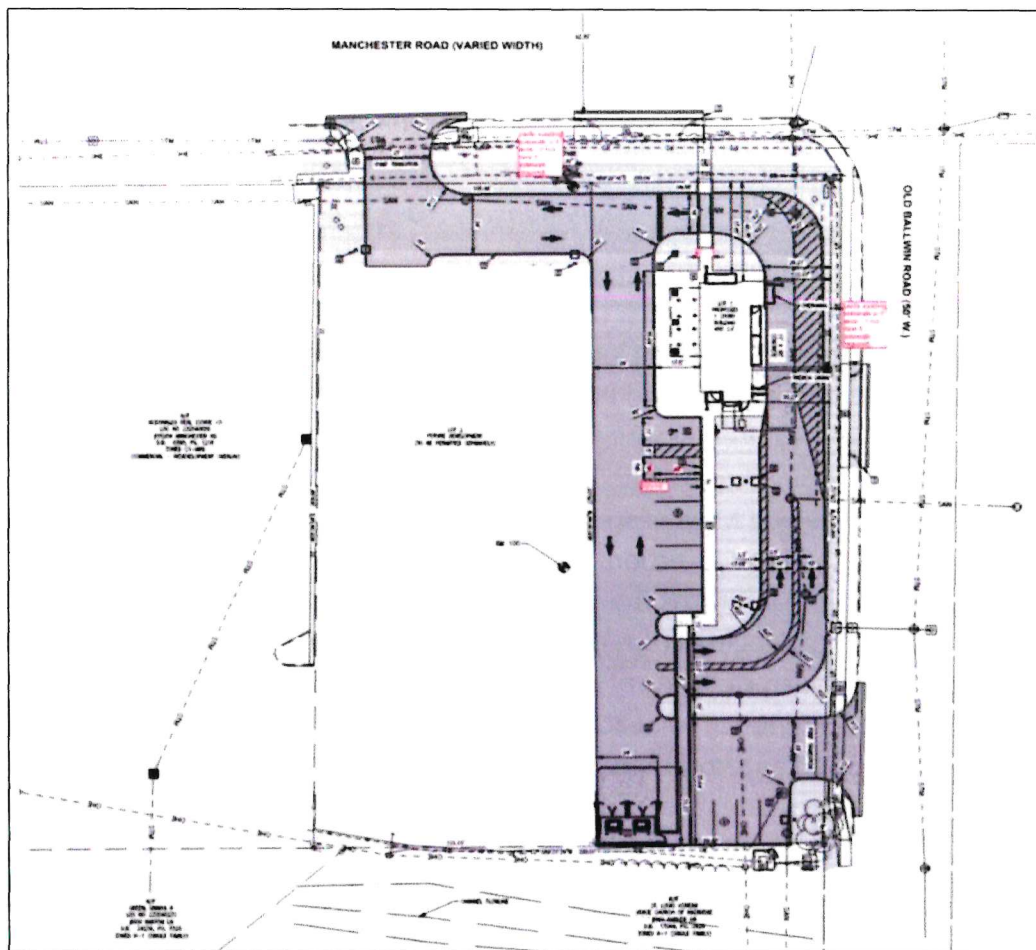

Figure 3 – Proposed site plan
The proposal for the site is to subdivide the existing lot into two different parcels, with the west parcel being left vacant for now and a new Dutch Bros coffee shop with approximately 900 square-feet of building with a dual drive through. The existing site has two driveways along Manchester Road and two driveways along Old Ballwin Road, however the driveways closest to the intersection of Manchester and Old Ballwin Road will be closed on both adjacent roadways leaving only 2 remaining driveways, leaving one (1) access drive on Manchester Road and one (1) access drive on Old Ballwin Road. Figure 3 shows the proposed site plan.